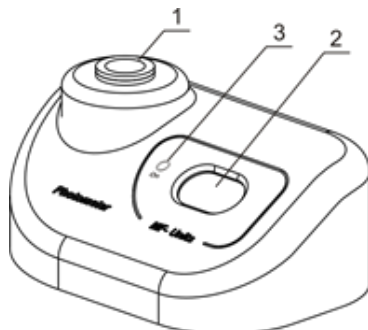

Figure 3. Front view
- Check if the **A-16** adapter is in the socket (fig. 3/1). The device is calibrated for operation with the glass tubes 16 mm in external diameter. To use different tubes, recalibrate the unit, see the **Calibration** section of the manual.
- 5.2. The following indication may be shown on the display (fig. 3/2):
Note. The display of **DEN-1B** switches off if the socket is empty for longer that one minute. Press the **On** key (fig. 3/3) to activate the unit.
- 5.3. Shake the tube with the solution. It is recommended to use a vortex for shaking, e.g. **Biosan V-1 plus**. Insert the tube into the socket of densitometer (fig. 3/1). The McFarland value for the solution will be shown on the display (fig. 3/2).
- 6.6.2. **Transparent standard.** Display shows **0.00** indication. Insert standard for **0.00** value into the socket (fig. 3/1) of the unit. If the standard for 0.00 value is not available, fill the tube (of the kind that is used for operations) with distilled water. Use the tube as the **0.00** value standard. Press **Install** button to save transparent standard value. Display shows next required calibration value.
- 6.7. **Common calibration rules.** Display shows indication of necessary calibration value. Insert the necessary standard into the socket (fig. 3/1) of the unit and press the **Install** button to save the value for current standard.